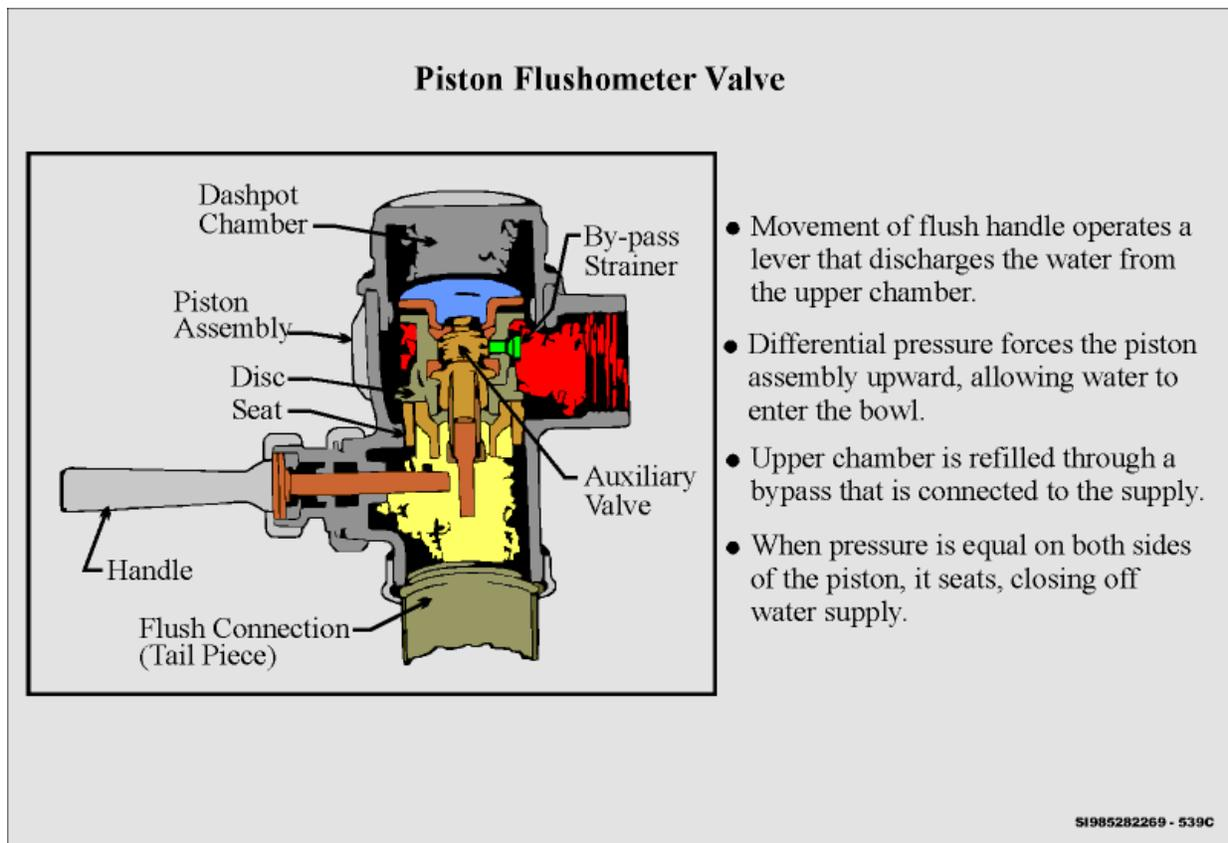

Figure 1. Piston Type Flushometer
1.1. The **piston** type flushometer has a hollow piston that separates the water in the dashpot chamber from the lower chamber. When the handle is activated the water is discharged from the dashpot chamber. The difference in pressure between the dashpot and the lower chambers forces the piston assembly upward allowing the water to enter the fixture. The dashpot chamber is filled through a bypass in the piston. The bypass is connected to the water supply. When the water pressure equalizes on both sides of the piston, the piston will seat, closing off the water supply. (See Figure 1.)